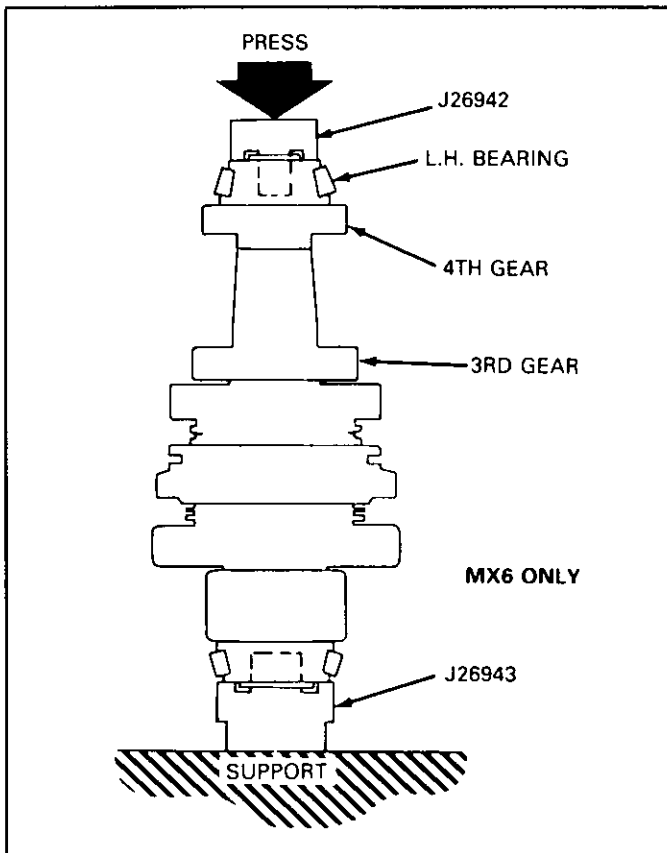

Figure 31 23B-Installing 3rd/4th Gear and L.H. Brg. (Output)
5. Press 3rd/4th gear onto the shaft using support plates and J-26943 (Figure 31).
6. Press the L.H. bearing onto the shaft using J-26942 (Figure 31).